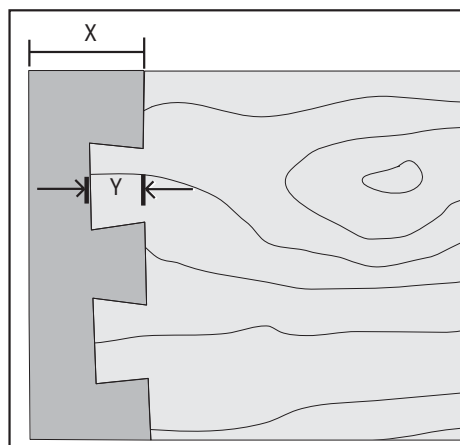

Fig. 21
- \* What is the tail height (the distance "Y" in Fig. 21) on the dovetail joints you will make?
- \* How thick is your pinboard (the distance "X" in Fig. 21)?